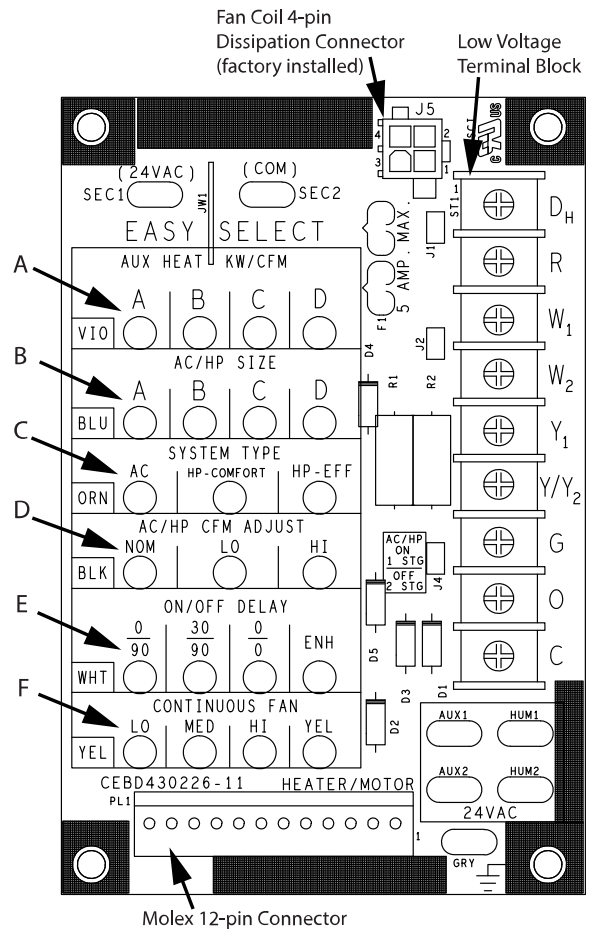
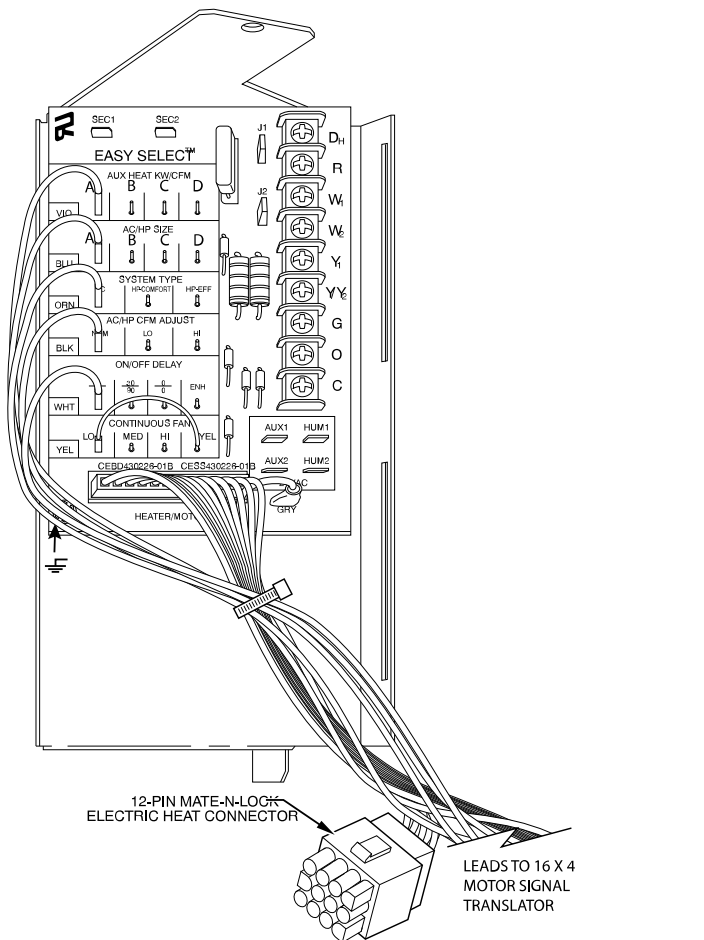

Fig. 20 – Detail of Printed-Circuit Board
Fig. 21 – Connection Detail of Printed-Circuit Board (also showing 12-pin cable) PF5T
Easy Select taps are used by the installer to configure a system. The ECM motor uses the selected taps to modify its operation to a pre-programmed table of airflows (see Table 8 and Table 10). Airflows are based on system size or mode of operation and those airflows are modified in response to other inputs such as the need for de-humidification (see Fig. 20 and Fig. 21 and Table 6).
Installer must select the auxiliary heat airflow approved for application with kW size heater installed. If no heater is installed, this step can be skipped. Each select pin is marked with a range of heaters for which airflow, also marked, is approved. For increased comfort select the narrowest kW range matching the heater size, for example, 0-10 for 10-kW heater. This airflow must be greater than the minimum CFM for electric heater application with the size system installed for safe and continuous operation (see Table 11 and Table 12 for airflow delivery and minimum CFM). Note that airflow marked is the airflow which will be supplied in emergency heat mode and heating mode on air conditioners when electric heat is the primary heating source. In heat pump heating mode when electric heaters are energized, the ECM motor will run the higher of heat pump heating airflow and electric heater airflow to ensure safe heater operation. The factory selection is the largest heater range approved (see Fig. 20, A as indicated).
The factory setting for air conditioner or heat pump size is the largest unit meant for application with the model of fan coil purchased. Installer needs to select air conditioner or heat pump size to ensure that airflow delivered falls within proper range for the size unit installed. This applies to all operational modes with the exception of electric heat modes (see Fig. 20, B as indicated).
3. HP-EFF - Heat Pump Efficiency provides same airflow for heating and cooling modes to increase overall HP efficiency; approximately 350 CFM per ton. The factory setting is AC. (See Fig. 20, C as indicated.)
To provide airflow at rates described above, the AC/HP ADJUST select is factory set to the nominal (nom) tap. The adjust selections HI/LO will regulate airflow supplied for all operational modes, except non-heat pump heating modes. HI provides 15% airflow over nominal unit size selected and LO provides 10% airflow below nominal unit size selected. Adjust selection options are provided to adjust airflow supplied to meet individual installation needs for such things as noise, comfort, and humidity removal (see Fig. 20, D as indicated).
Four motor operation delay profiles are provided to customize and enhance system operation (see Fig. 20, E as indicated). Selection options are:
3. HI speed - move connector of HI, 100% cooling mode airflow (see Fig. 20, F as indicated).
The following fan coil configuration is recommended for maximum heating and cooling/dehumidifying comfort (see Fig. 20):
7. If the fan coil is installed with Heat Staging capable electric heaters, remove jumper J2 (see Fig. 20).
The AUX and HUM terminals on the Easy Select Board are tied directly to the G terminal, and provide a 24VAC signal whenever the G terminal is energized (see Fig. 20).